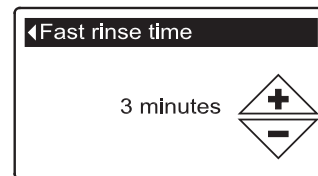

FIG. 132
- 8d. **Fast rinse time:** Press the UP (▲) or DOWN (▼) buttons to change the fast rinse time. Hold the button down to rapidly advance. The fast rinse time can be set from 1 to 30 minutes* (See Figure 132).